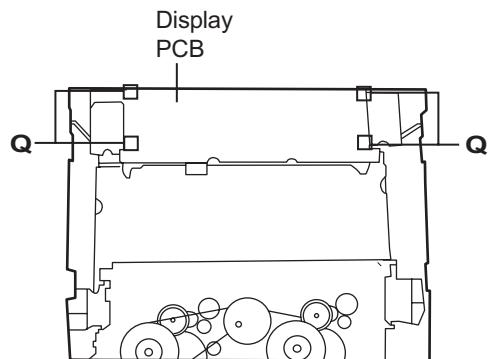

Fig.21
(See Fig.21)
- (5) Remove two screws **S** retaining the sound mode and CD function (key 2) switch board.(Fig.21)